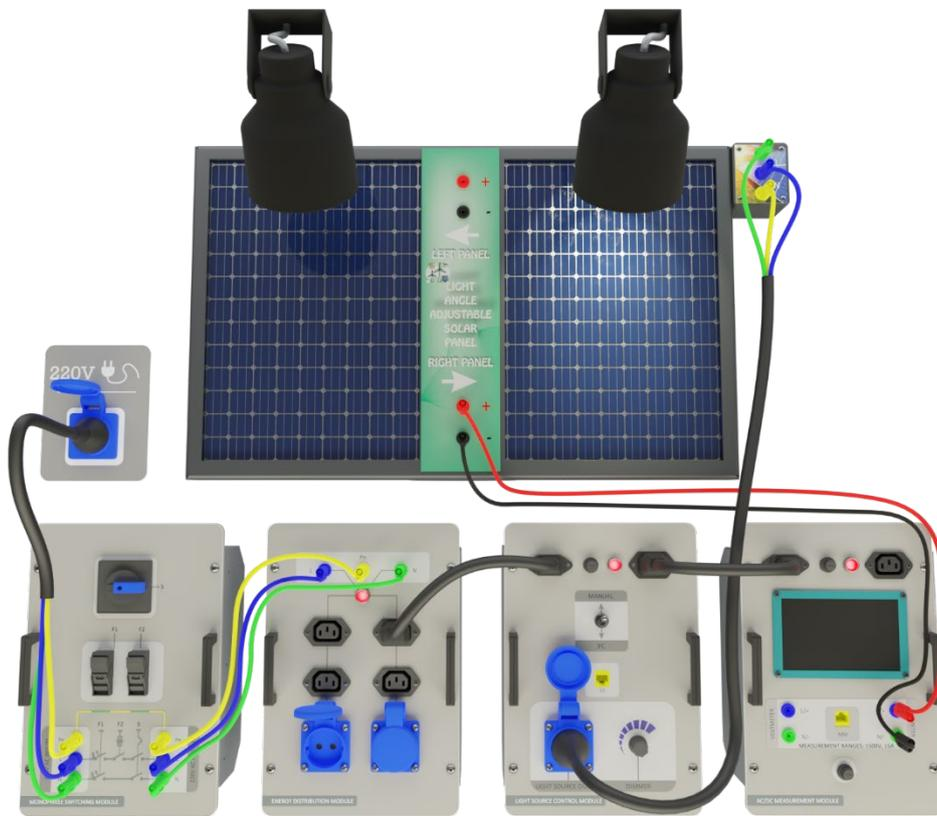

Figure-56. Installation Image of Examination of Mismatching Effect in Photovoltaic Panels
1. Set up the connection as specified in Figure-56. Ensure a constant level of light in the laboratory by creating an average scenario. Any alterations to the positions of the lamps or curtains will have an impact on the experimental outcomes.